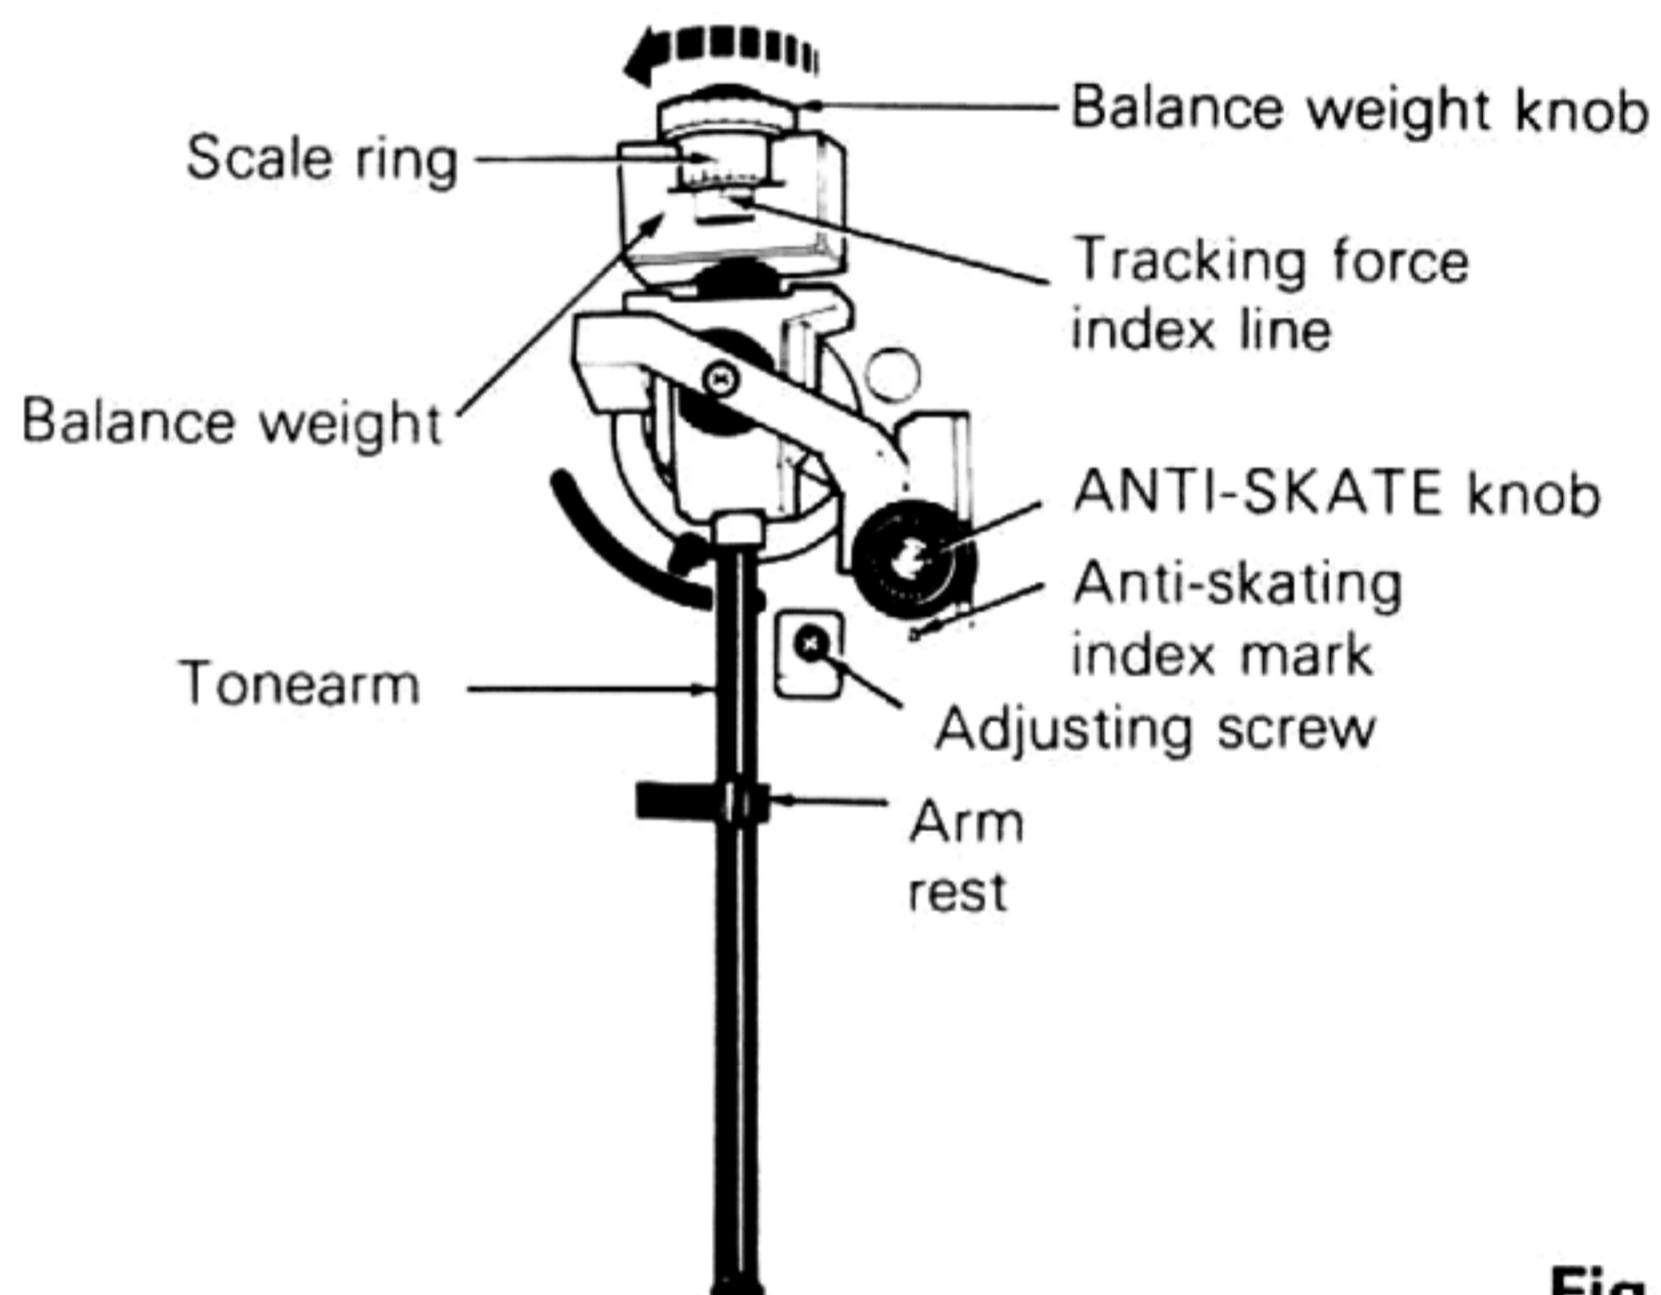

Fig. 3
1. Set the ANTI-SKATE knob '0' to the anti-skating index mark, and detach the tonearm from the arm rest. (See Fig. 3)
4. Rotate the balance weight knob in the direction of the arrow in the figure and adjust to the recommended value of the cartridge's tracking force. (See Fig. 3)
Match the ANTI-SKATE knob to the anti-skating index mark in accordance with the tracking force of the cartridge used. (See Fig. 3)